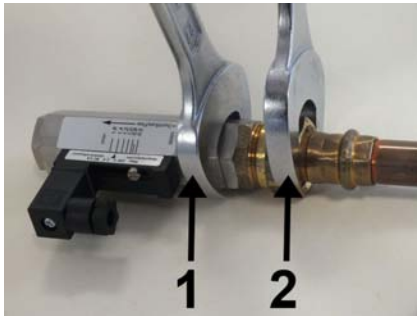

Fig. 12: Screw in the device
3. ▶ Keep turning in the adapter union (Fig. 12/2) while holding the process connection of the device locked (Fig. 12/1) until the connection is tight.